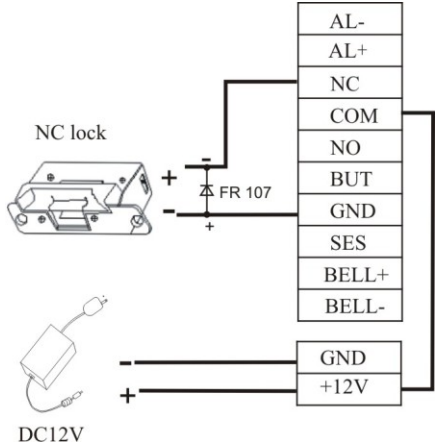
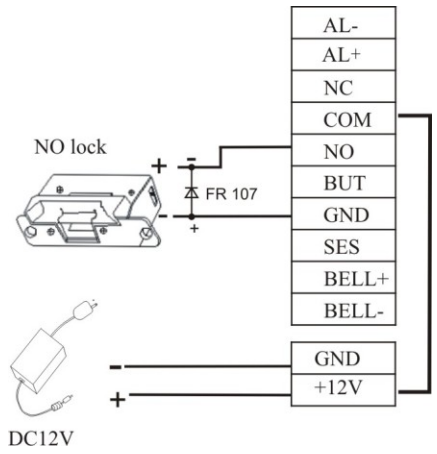

Figure 1 NC electronic lock (sharing power supply with the device)
Figure 2 NO electronic lock (sharing power supply with the device)
1. The device shares power supply with the electronic lock, as shown in Figure 1 and Figure 2: